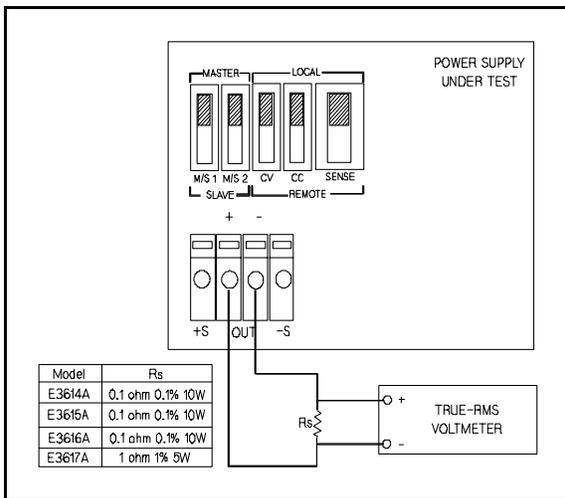

Figure A-8. CC PARD RMS Measurement Test Setup
- a. Connect the test equipment as shown in Figure A-8.